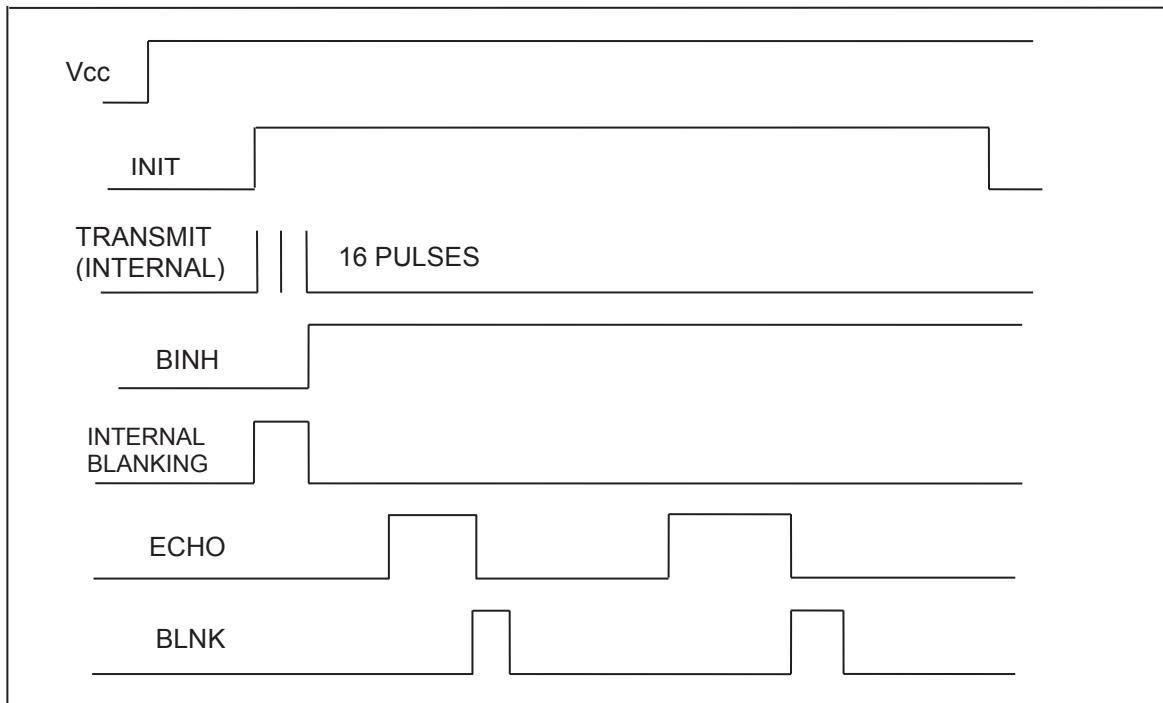

FIGURE 3-5 MULTIPLE MODE CYCLE WITH BLANKING INPUT
- Multiple-echo mode. The BLNK input is used to detect multiple targets during a single transmit cycle (see Figure 3-5).
In addition, the blanking time (internally set to 2.38 ms) can be shortened to allow measurements to closer distances, as shown in Figure 3-5. For our electrostatic transducers, this distance can be as short as 6 inches when a shorter blanking time is applied to the BINH input.